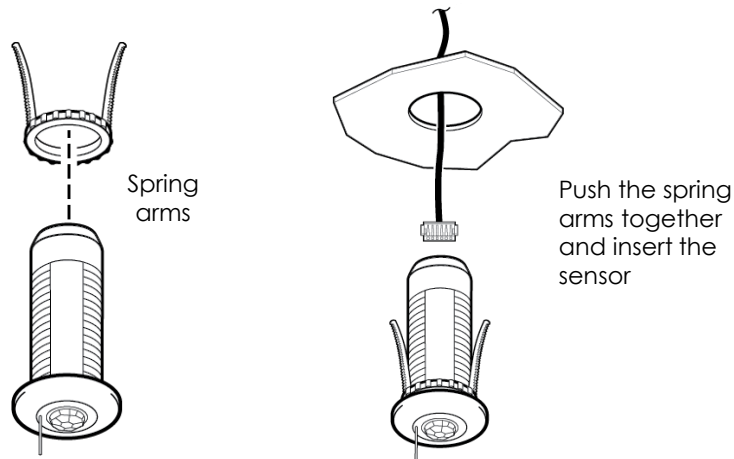

Figure 2: Tile Mount Sensor
5.	Pull the 6-pin end of the Compact Sensor cable through the hole in the tile. See Figure 2.
6.	Insert the end of the wire into the sensor's 6-pin connector. See Figure 2.
7.	Push the spring arms together and insert the sensor through the hole in the tile. See Figure 2.